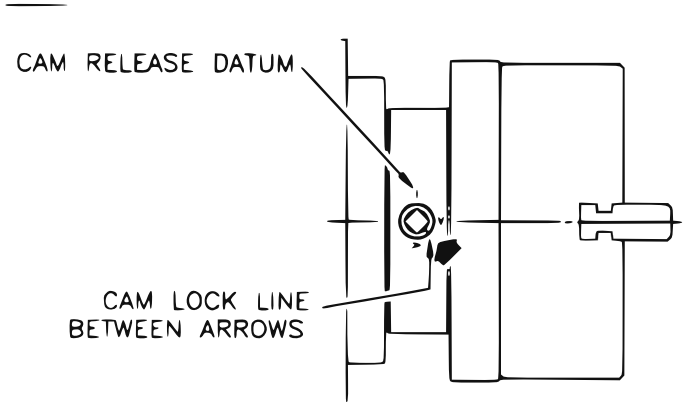

Figure 3-7: Correct cam position: the cam lock line is between the arrows
- 3 Check each cam. When fully tightened, the cam lock line on each cam must be between the two V marks on the spindle nose (see Figure 3-7).